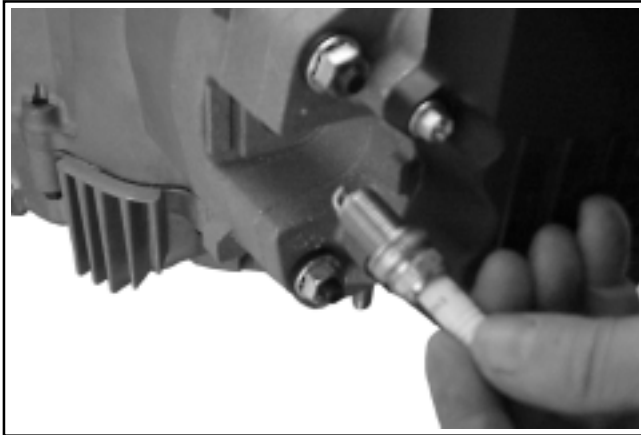

Figure 9-61. Removing Spark Plug(s).
1. Remove the spark plug from each cylinder head using a spark plug socket. See Figure 9-61.